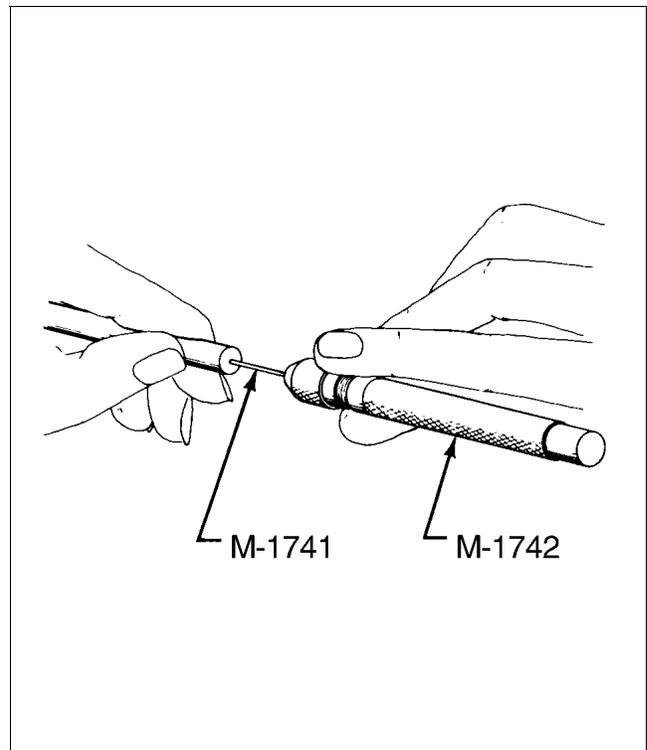

Figure 74-19. Removing Silicone Rubber from Wire
6. Using T-111 or M-1742 pin vise, insert T-110 or M-1741 drill (#72 drill), drill out silicone rubber from inside coiled conductor approximately 0.5 inch deep. (Refer to Figure 74-19.)